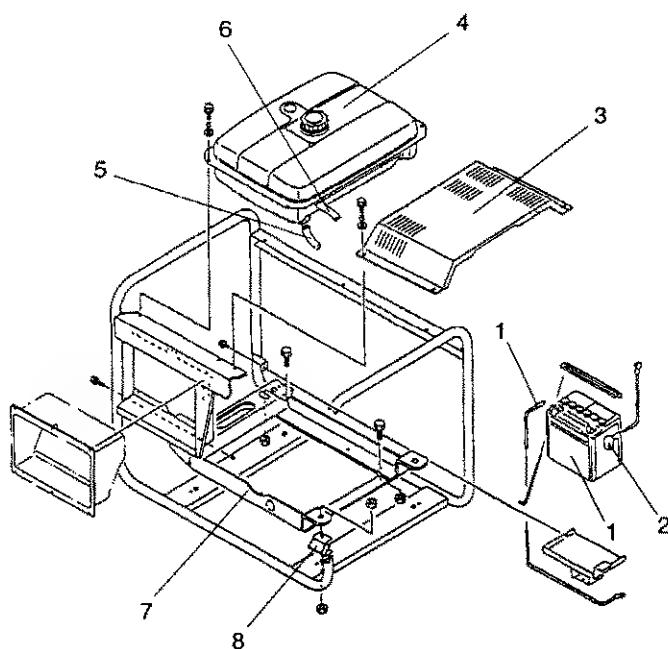

Fig. 5.2.2 Frame unit components
- Fig. 5.2.2 illustrates the scope of work and parts configuration.
① Disconnect battery cable 1.
② Disconnect battery 2.
③ Remove engine cover 3.
④ Disconnect fuel hoses 5 and 6 from the engine and then remove fuel tank 4.